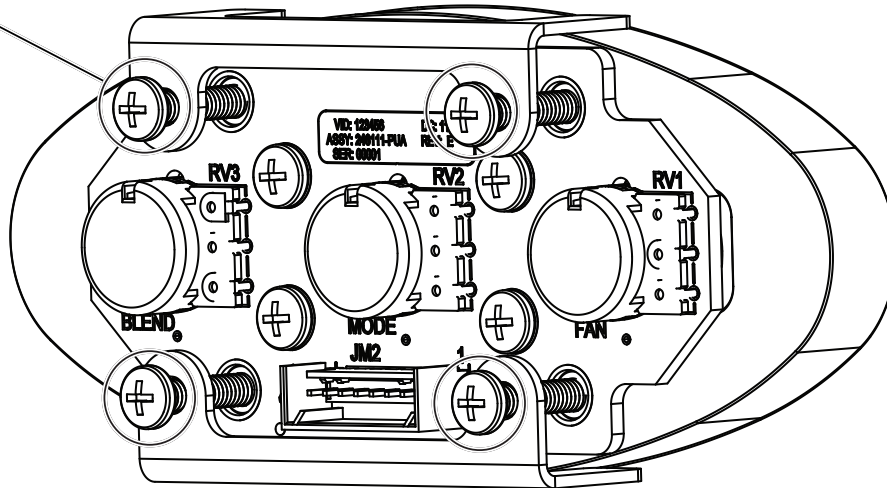

Figure 5
3. Replace both of the control panel brackets, and secure them using (4) 8-32 x 3/8" pan head screws (See Figures 5 and 6, below). Tighten until snug. **NOTE: Overtightening the mounting screws could damage the control board.**